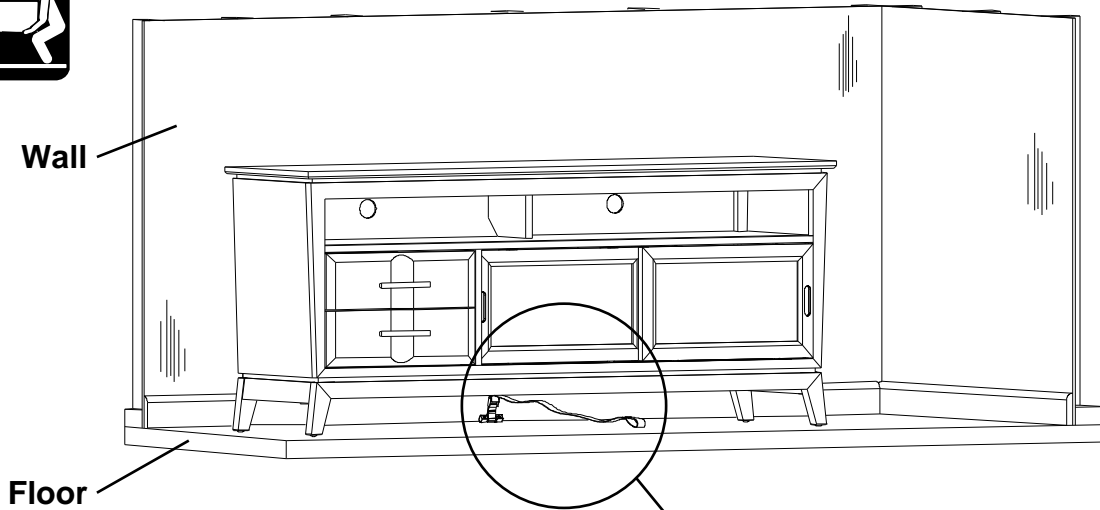

Fig. 7
7. Move the item back into position against the wall and reach underneath the piece of furniture to grasp the loop in the free end of the strap. Pull the free end of the strap until portion between the Cam Buckle (A) and the back apron of the item is tight. See Figures 7 and 7a. If you need to move the piece of furniture reach beneath and locate the buckle which connects the two sections of the strap and depress the release lever, then pull on the section of strap that is between the buckle and the back apron of the furniture until there is enough slack to allow you to pull the item away from the wall.